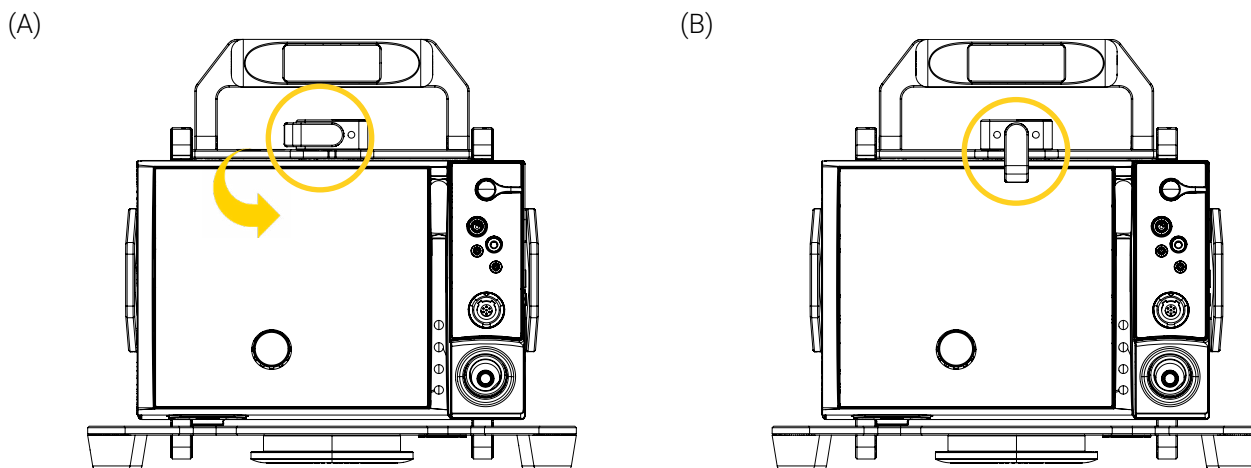

Figure 9: Medical device installed in the BP380 – GR
4. Lock the mounting bracket using the quarter-turn latch (Figure 9). Refer to the « Lock the BP380 – GR » section on page 17 if needed.